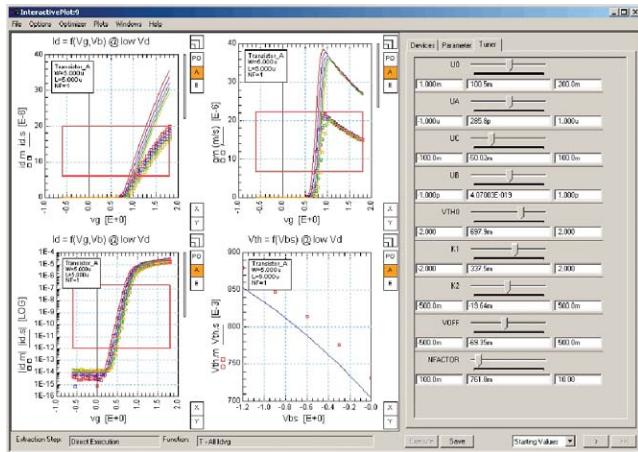

**Figure 5: Extraction user interface for easy model parameters initialization.**
1. Load the measurement data, initialize known or required process parameters, and set the BSIM4 model flags and device symmetries, as shown in Figure 5.